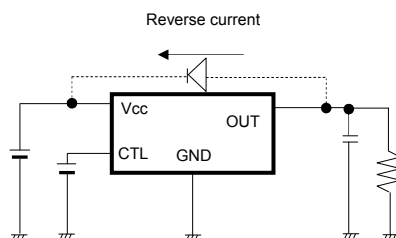

Fig. 36:Bypass diode
- 2) This IC is bipolar IC that has a P-board (substrate) and P+ isolation layer between each device, as shown in Fig.36. A P-N junction is formed between this P-layer and the N-layer of each device, and the P-N junction operates as a parasitic diode when the electric potential relationship is $GND > \text{Terminal A}$, $GND > \text{Terminal B}$, while it operates as a parasitic transistor when the electric potential relationship is $\text{Terminal B} > GND > \text{Terminal A}$. Parasitic devices are structurally inevitable in the IC. The operation of parasitic devices induces mutual interference between circuits, causing malfunctions and eventually the destruction of the IC. It is necessary to be careful not to use the IC in ways that would cause parasitic elements to operate. For example, applying a voltage that is lower than the GND (P-board) to the input terminal.